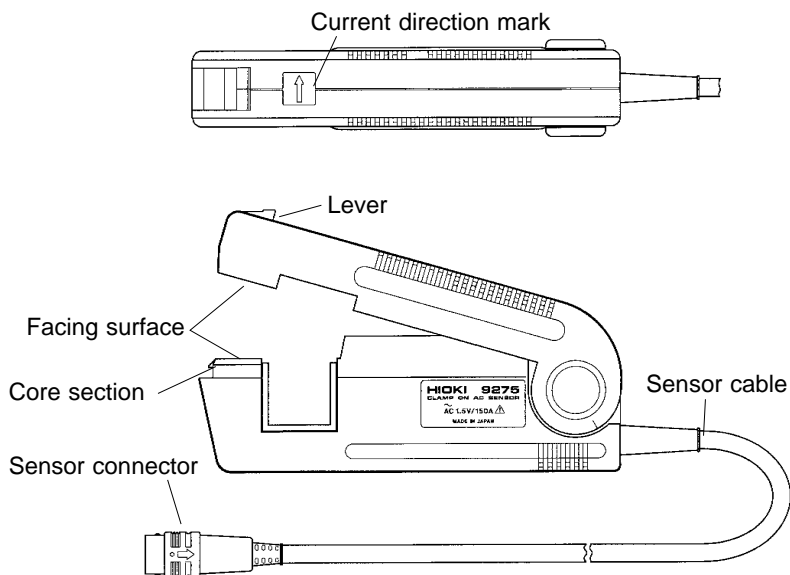

Figure 4 9275 Identification of Indicators
- (1) Select both ranges of the 3270 and the measuring equipment according to the input current value. (Refer to Table 2 in Section 1.4.3.3.)
- (2) Set the coupling switch to AC.
- (3) Gently press the lever of the sensor to open the core section. (Refer to Figure 4, 9275 Identification of Indicators.)
- (4) Position the sensor so that the current direction mark points in the direction of the load and so that the conductor being measured is centered, and then close the core section.